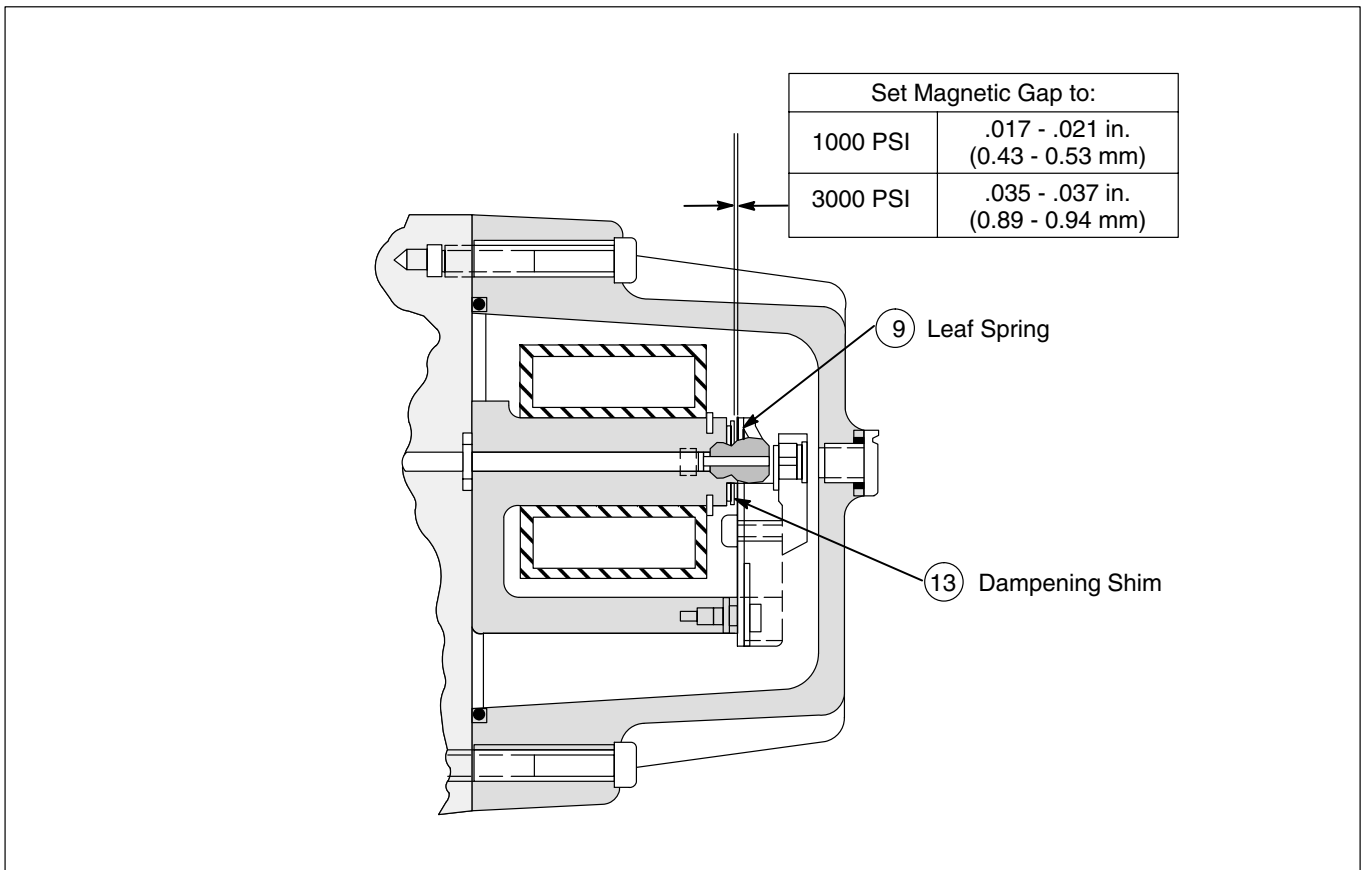
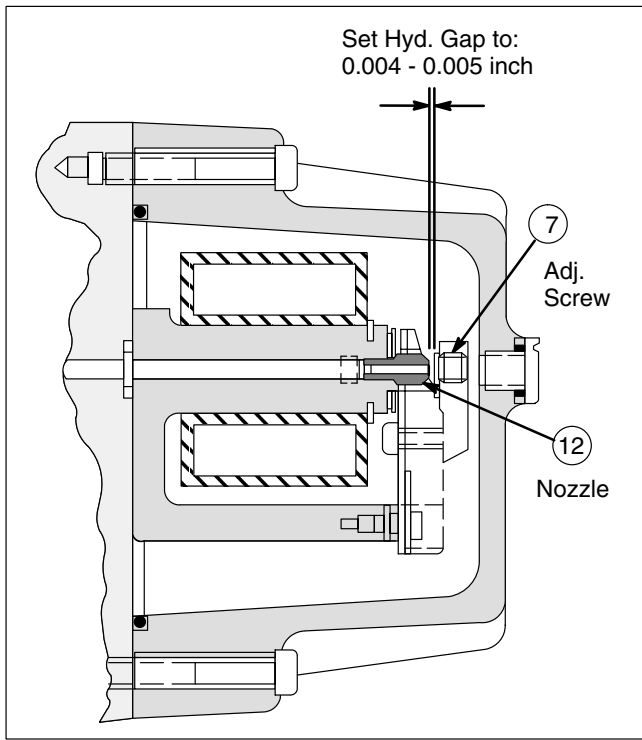

Figure 5. Setting magnetic gap on 1000 & 3000 PSI models.
Figure 6. Setting hydraulic gap.
11. Install parts (23) through (21). Torque screws (21) to 40 lb. in., (4 - 4.5 N.m).
12. Install O-Ring (20) in place over coil (19) wires. Slide coil (19) over frame (22) while inserting wires into body (38) wiring cavity. Gently press O-Ring (20) and wires through body opening until coil bottoms against the screw heads (21) that secure frame (22).
13. Install parts (18) through (12). Dampening shim (13) exists on 1000 PSI models only. Thread nozzle (12) through coil retainer (14) into frame (22) Use a 5 mm open end wrench or a small adjustable wrench to tighten the nozzle. Do not overtighten the nozzle (12) or accidentally strike the nozzle orifice face with the wrench. Damage to the orifice face could reduce the maximum pressure setting, (due to leakage past the orifice). See Figure 5 for location of dampening shim.
15. Insert screws (6) and washers (6a) through flapper plate S/A (8) opening into leaf spring (9). Hold screws in place and locate shims over screws against leaf spring (9). Thread screws into frame (22) lightly. Position flapper plate S/A (8) to prevent mechanical contact with side of nozzle (12). Torque screws (6) to 12-14 lb. in., (1.4 - 1.6 N.m). Check the magnetic gap as follows:
a. 1000 PSI models: Refer to Figure 5 and carefully measure the distance between leaf spring (8) and dampening shim (13). Use a feeler gage. The distance should be 0.017 to 0.021 inches. (0.43 - 0.53 mm). Add or remove shims (11) to meet this dimension.
b. 3000 PSI models: Refer to Figure 5 and carefully measure the distance between leaf spring (9) and frame (22). Use a feeler gage. The distance should be 0.035 to 0.037 inches. (0.89 - 0.94 mm). Add or remove shims (11) to meet this dimension.
16. If adjustment screw (7) was removed from flapper plate (8), thread a new adjustment screw (7) into flapper plate (8).
Measure the hydraulic gap with a feeler gage to set the clearance between nozzle (12) and adjustment screw (7). The gap should be 0.004 - 0.005 inch, (0.10-0.13 mm). This applies to 1000 & 3000 PSI models. Refer to Figure 6.
17. Install parts (5) through (1). Cross torque screws (3) to 35-40 lbf. in., (4-4.5 N.m)